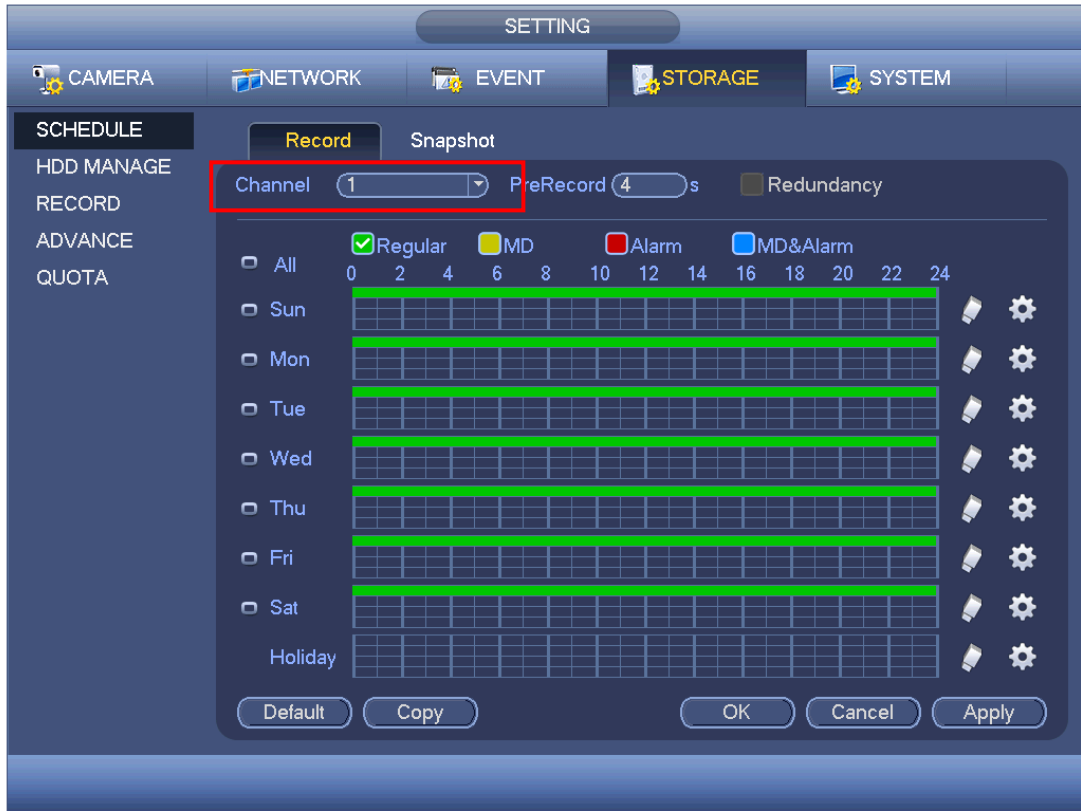

Figure 4-98
- In main menu, from Setting->Camera->Encode->Schedule interface, please enable snapshot function. See interface on the right of Figure 4-98.